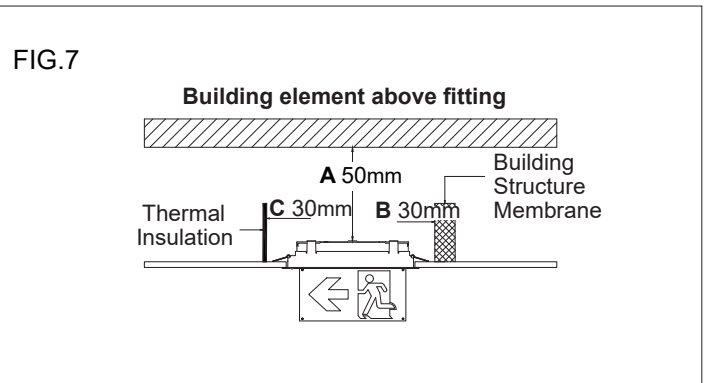

FIG.8
- Make the recommended cut out in the ceiling. (Fig. 8)